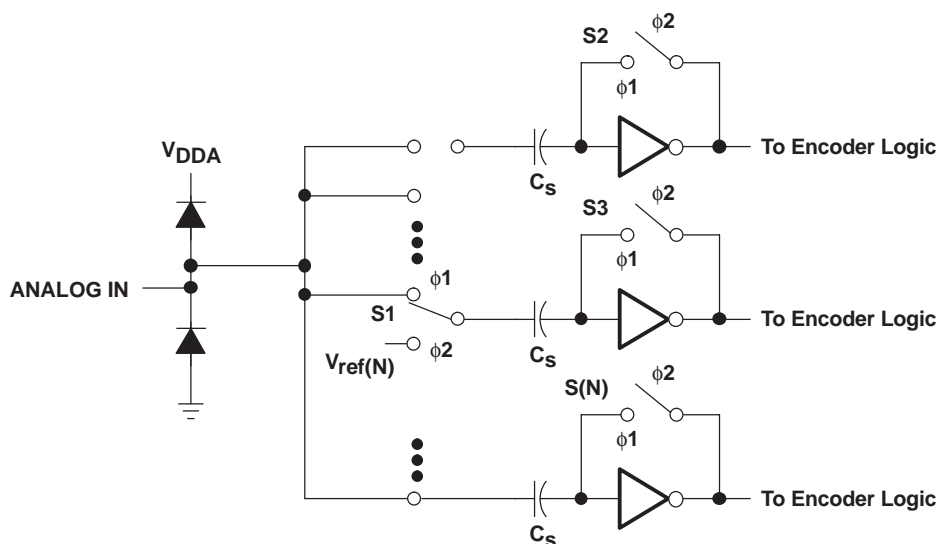

Figure 13. External Connections for Using the Internal Reference Resistor Divider
Figure 13 depicts the analog input for the TLC5540. The switches shown are controlled by two internal clocks, $\phi1$ and $\phi2$. These are nonoverlapping clocks that are generated from the CLK input. During the sampling period, $\phi1$, S1 is closed and the input signal is applied to one side of the sampling capacitor, C_s . Also during the sampling period, S2 through S(N) are closed. This sets the comparator input to approximately 2.5 V. The delta voltage is developed across C_s . During the comparison phase, $\phi2$, S1 is switched to the appropriate reference voltage for the bit value N. S2 is opened and $V_{ref(N)} - VC_s$ toggles the comparator output to the appropriate digital 1 or 0. The small resistance values for the switch, S1, and small value of the sampling capacitor combine to produce the wide analog input bandwidth of the TLC5540. The source impedance driving the analog input of the TLC5540 should be less than 100 Ω across the range of input frequency spectrum.